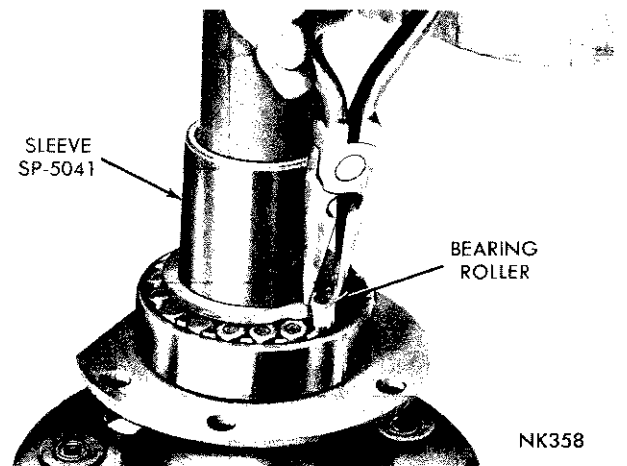

Fig. 10—Removina the Bearina Rollers
(4) Remove the bearing rollers from the section of the flange that was ground away (Fig. 10).